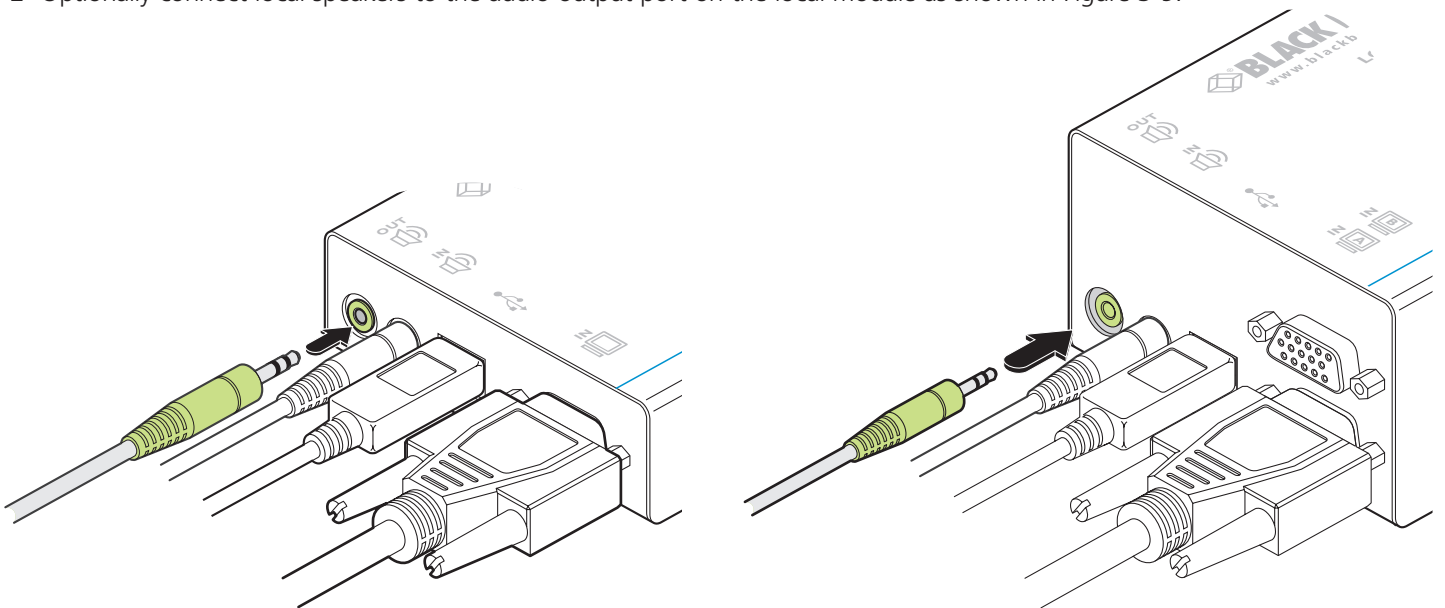

Figure 3-9. Attaching speakers to the single- and dual-variant local modules
- 2 Optionally connect local speakers to the audio output port on the local module as shown in Figure 3-9.